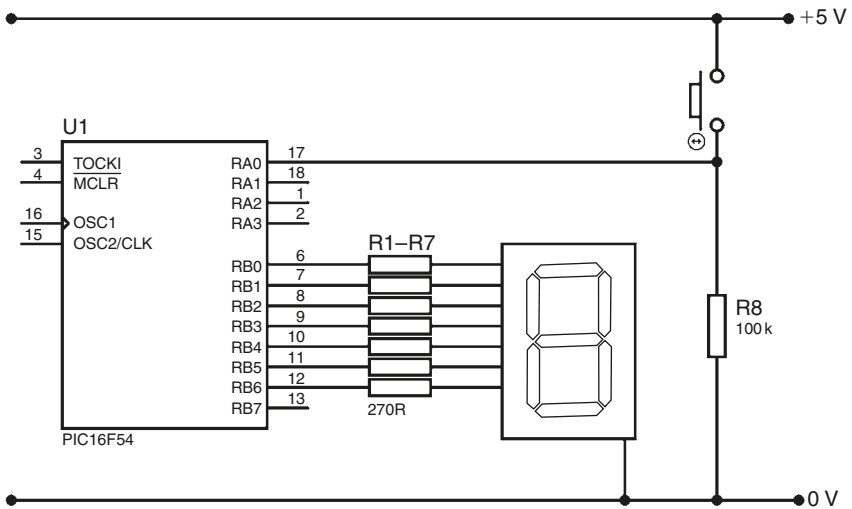

Figure 1.2
2. The push button requires **one** input, creating a total of 8 input/output pins. In this case a PIC54 would therefore be used (see Figure 1.2).